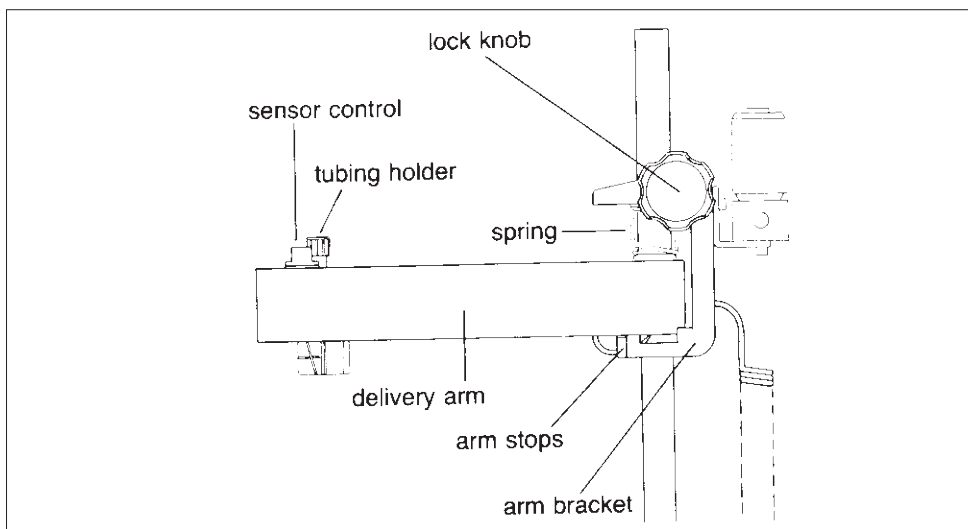

Fig. 3. Delivery arm.
Figures 3 and 4.
1. Pull out the arm bracket from the stand of the fraction collector (Fig. 3).